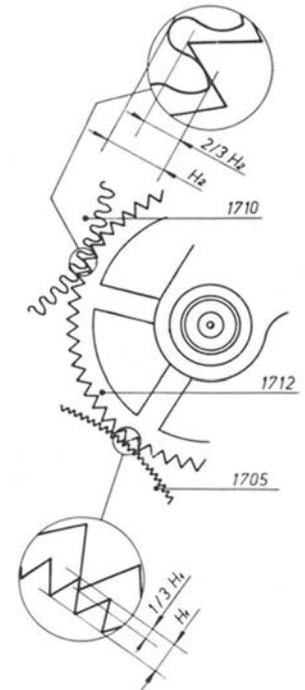

Fig. 1
5.4.1. Check penetration of the gears: Fig. 1